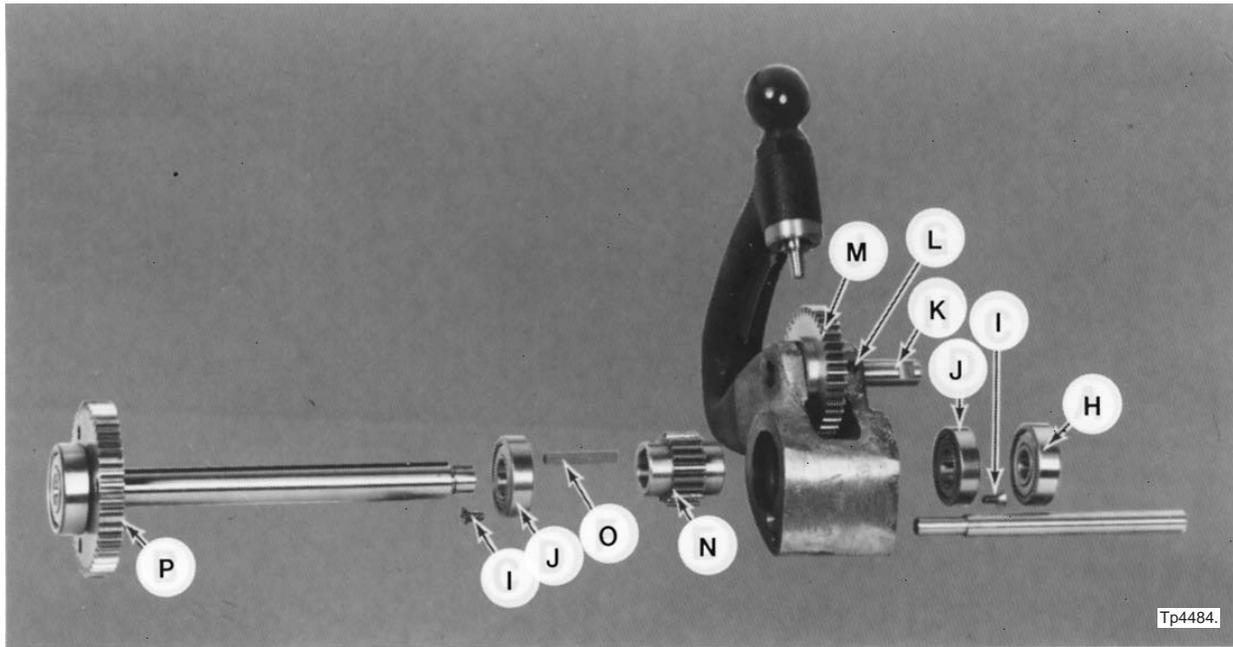

Figure 4.28 - Tumbler and Shaft Assembly
- a) Press bearing "H", Figure 4.28, off tumbler shaft "P" and remove the tumbler shaft.
- b) Hold gear and bearing "M", Figure 4.28, in position and replace shaft "K".